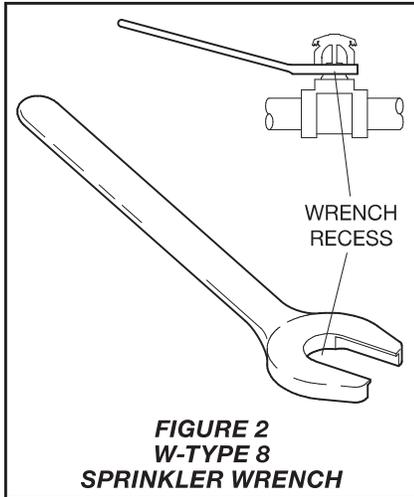

FIGURE 2
Step 2. Using the W-Type 8 Sprinkler Wrench (Ref. Figure 2) applied to the sprinkler Wrench Flats (Ref. Figure 1), tighten the Model K17-231 Sprinkler into the sprinkler fitting.